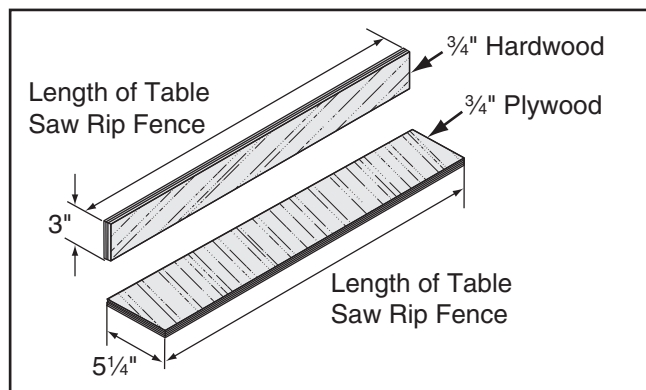

Figure 86. Auxiliary fence dimensions.
1. Cut a piece of $\frac{3}{4}$ " thick plywood $5\frac{1}{4}$ " wide and as long as your table saw fence; cut a piece of $\frac{3}{4}$ " thick hardwood 3" wide and as long as your table saw fence, as shown in **Figure 86**.